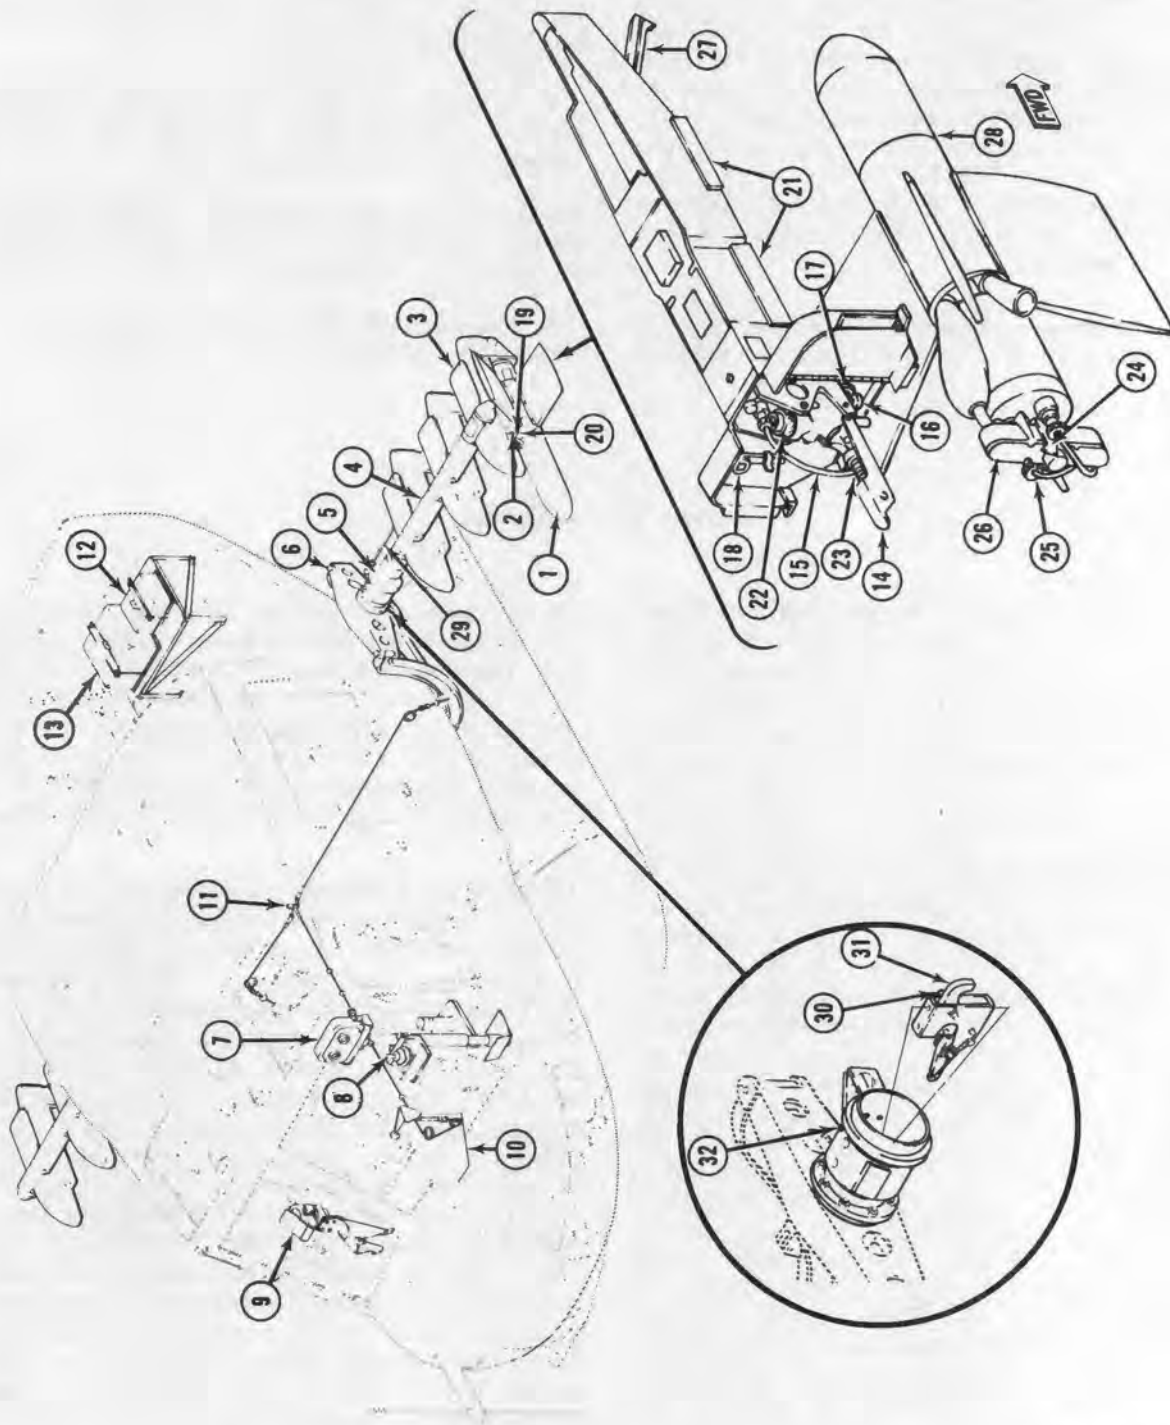

Figure 14-5. SS-11 missile installation (Sheet 1 of 2)
14-44. SS-11 Missile Installation. (See figure 14-5.) The SS-11 anti-tank missile system installation is designed for use on Model UH-1B helicopters, Serial Nos. 61-720 through 61-735 and converts those helicopters from passenger, cargo carrying vehicles to attack and assault weapons. The system contains six SS-11 missiles (1), launchers (2), and pylons (3), attached to boom assemblies which protrude from the helicopter fuselage. Each boom assembly is equipped with three missiles, launchers and pylons. The inboard end of each boom assembly is contained in a mechanical jettison device (5), which is attached to an external stores support assembly (6). A gunner sight assembly (7) is provided for maintenance of visual contact with the missile during flight. The gunner control stick assembly (8) is mounted on the forward side of the gunner sight pedestal. The pilot sight assembly (9) acts as a visual aid to maintain proper alignment of the helicopter with the target. A command box (10), located at the lower, left-hand forward corner of the center console, contains the controls necessary for operation of the SS-11 missile system. Switches on the command box enable the gunner to jettison individual missiles and launchers; simultaneously jettison all missiles and launchers, or jettison the junction box and missile guidance wires after a missile has been fired. Manual emergency jettison controls (11) enable the pilot to mechanically jettison both boom assemblies simultaneously. The pilot also
14-45. SS-11 Missile. (See figure 14-5.) The SS-11 missile is a self-propelled, autorotating remote-controlled missile for use against surface targets. The missile consists of a streamlined body fitted with four equally spaced fins. These fins are set at an angle of one degree to the center line in order to provide autorotation about the roll axis. The missile is propelled by a two-stage solid-propellant rocket motor, comprising a booster and a sustainer stage. The missile is guided by remote control. Command signals, produced by a control stick, are transmitted by a signal generator for control of the pitch and yaw relays in the missile. The command signals are fed to the missile through two guidance wires, which unwind from bobbins in the missile during flight. The pitch and yaw relays in the missile actuate jettavators in the jet stream of the sustainer motor to provide guidance control during flight.
14-46. Removal — SS-11 Missile. (See figure 14-5.) Remove missiles as follows: